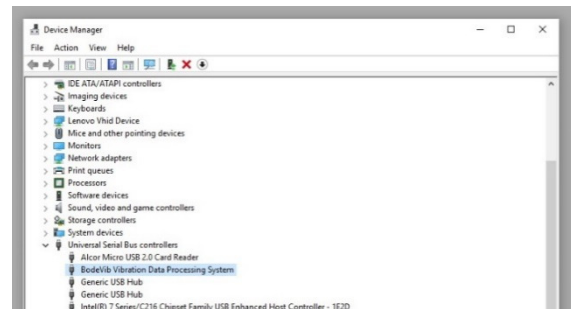
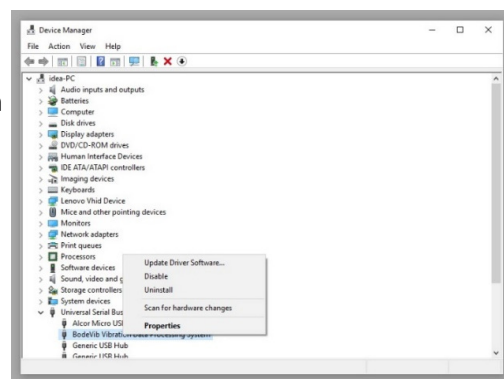

Fig 3. Conflicting driver **BoDeVib Vibration Data Processing System**.
Fig 4. Selecting **Update Driver Software...**
7. Right click on the conflicting driver, in this example **CodeVib Vibration Data Processing System**, Fig 3, and in the pop-up menu, click on **Update Driver Software...** as shown in Fig 4.